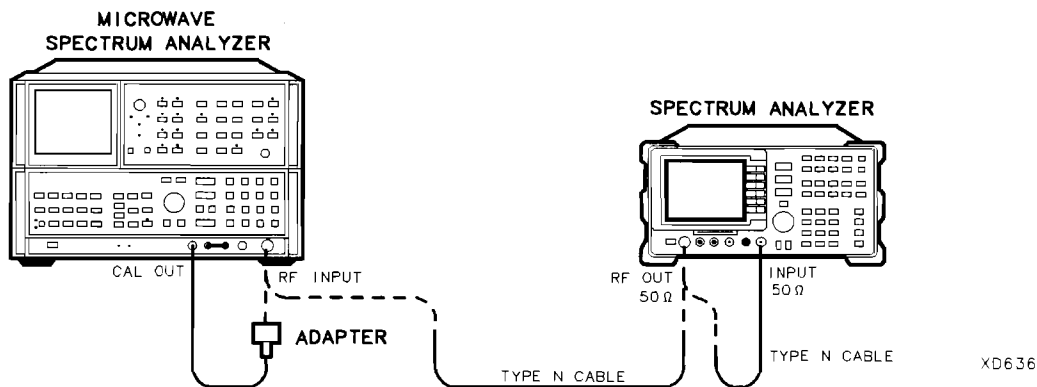

Figure 2-100. LO Feedthrough Amplitude Test Setup
2. Connect the Type N cable between the RF OUT 50 Ω and INPUT 50 Ω connectors on the spectrum analyzer. See Figure 2-100.
6. Connect the Type N cable from the tracking generator output to the microwave spectrum analyzer RF INPUT. See Figure 2-100.